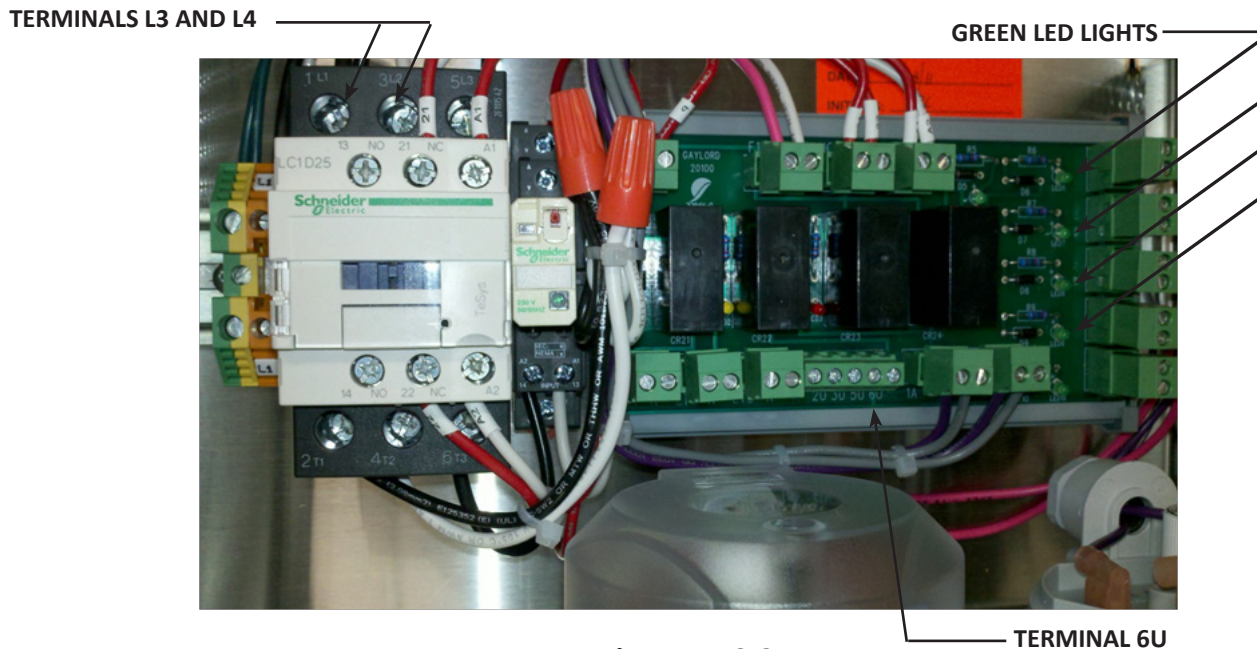

Figure 5-19-2
There are two Green and two Red Status Lights on a Ballast Board, one set for each Lamp (refer to Figure 5-19-2). The Status Lights are numbered Lamp 1 through 6 to correspond with the Lamp number. A Green light indicates the Lamp is operational and a Red light indicates the Lamp is not operational and must be replaced. If both lights are out then the Ballast Board is faulty and it must be replaced.
The UV Ventilation Control Board (Refer to Figures 5-19-2 and 5-22-2) monitors all the Safety Interlock Pressure Switches. If the Safety Interlock Pressure Switches are in a normal operational condition, a signal is sent to activate the Ballast Contactor allowing the UV System to operate. If a Safety Interlock Pressure Switch detects a problem, such as an Extractor Access Door or UV Module Access Panel being left open, a signal is sent to deactivate the Ballast Contactor which turns off the UV System. The UV Ventilation Control Board has three main components, the UV Monitoring Board, the Ballast Contactor and the Status Light Relay. If it is determined that any of these three components are defective replace as follows:
6. With gloves on and Ventilator running at 100%, turn the Adjustment Dial, as shown in Figure 5-19-1 on Pressure Switch “A”, COUNTER CLOCKWISE until you hear a click, and the corresponding green LED lights illuminate on the Ventilation Control Board, shown in Figure 5-19-2. Then turn the Adjustment Dial Pressure Switch “B” COUNTER CLOCKWISE until you hear a “click”. The green LED lights on the Ventilation Control Board will illuminate, and the green UV SYSTEM ON light, on the Ventilator, will also come on. (NOTE: Both Pressure Switches need to be on for the UV system to turn on. LED lights will always come on when the pressure switch closes)
2. Verify power is shut down by checking voltage on terminal 6U on the Ventilation Control Board. Also check terminals L3/L4. Voltage for both needs to be 0. Refer to Figure 5-19-2